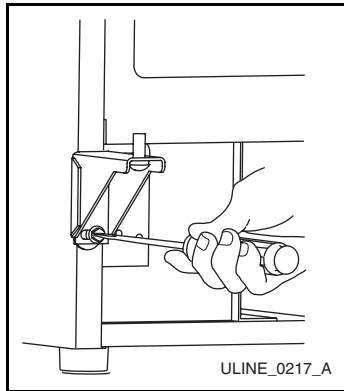

Figure 19
5. Install hinge on opposite side, bottom of cabinet (**Figure 19**). Replace nut on back side where installed. Align hinge outer edge with cabinet before tightening screws.